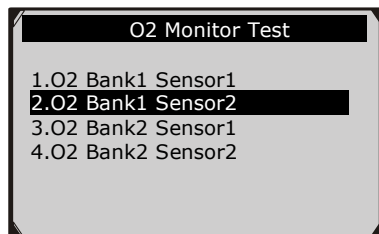

Figure 6.24
- 3) Use the **UP/DOWN** scroll button to select O₂ sensor from **O₂ Monitor Test** menu and press **OK** button (Figure 6.24).